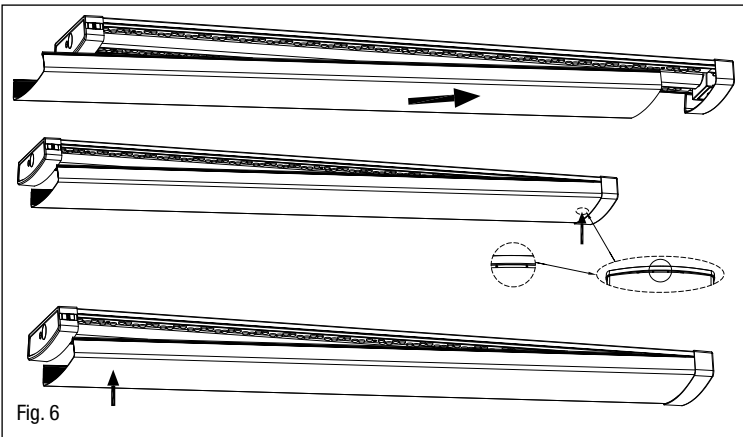

Fig. 6
8. Repeat step 1 in reverse. (Fig. 6)